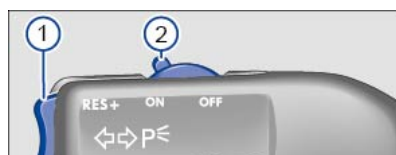

Fig. 139 On the left of the steering column: switch and buttons for operating the speed limiter.
- Move switch Fig. 139 to position **ON**.
- Press button Fig. 139 in the area **SET/-** while driving.
You can adjust the stored speed by means of the button Fig. 139 .
Press and hold button Fig. 139 to continuously change the stored speed.
- Press button Fig. 139 in area **RES/+**.
- Move switch Fig. 139 to position **OFF**.